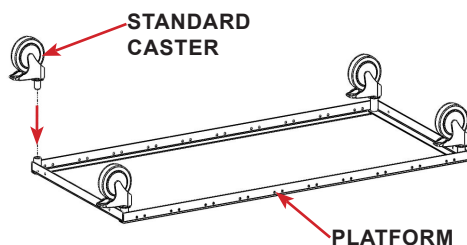

FIGURE 2.11 - Single Cage Platform
STEP 1: For single platform assemblies, insert a caster into each of the corner post sockets. See FIGURE 2.11